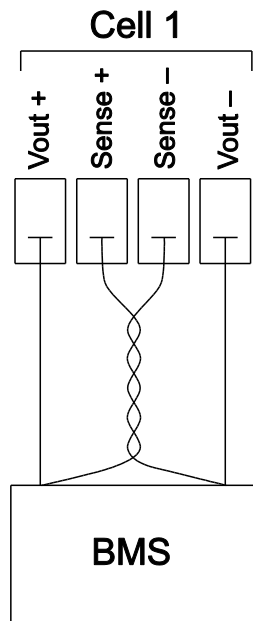

Figure 3: Wiring Remote Sense
2. Make wiring connections as needed (see Table 1: Connections for Cells 1 –12 and Table 2: Aux I/O Connections). See also Figure 3: Wiring Remote Sense
To set up the remote sensing mode, refer to Figure 3: Wiring Remote Sense and follow these steps: